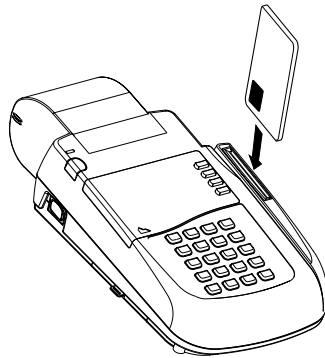

Figure 14 Using the Primary Smart Card Reader
1. To conduct a transaction, position a smart card and insert it into the smart card reader slot in a smooth, continuous motion until it seats firmly with a “click” (Figure 14).